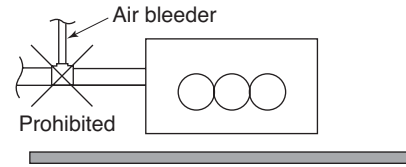

Fig. 3-65
- Do not install an air bleeder as this may cause water to spray from the drain pipe outlet. (Fig. 3-65)